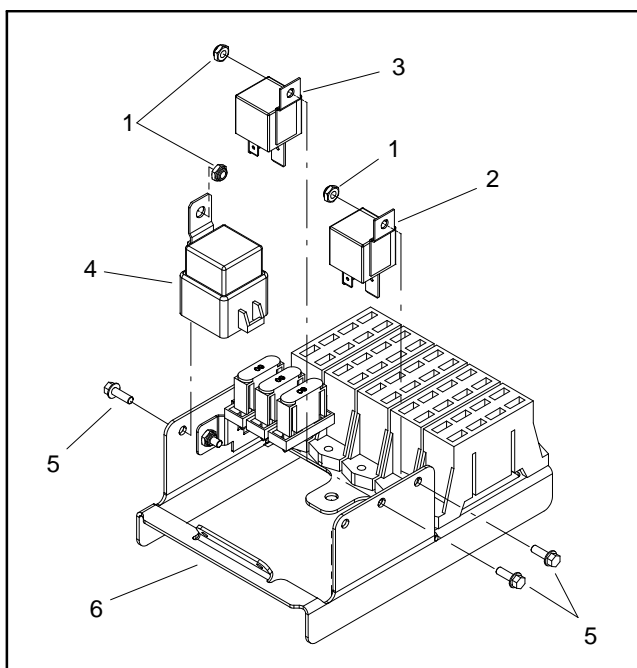
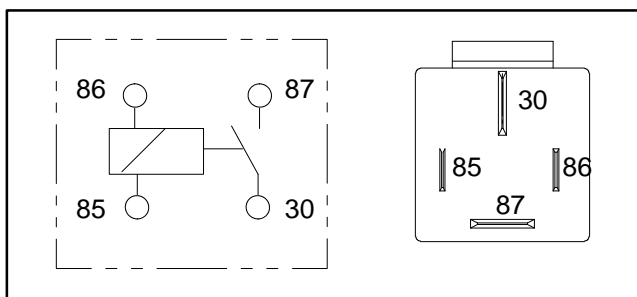

Figure 40
Figure 41
The glow and main power relays are located at the power center behind the operator seat (Fig. 40). These relays are attached to the wire harness with a four (4) wire connector (Fig. 41).